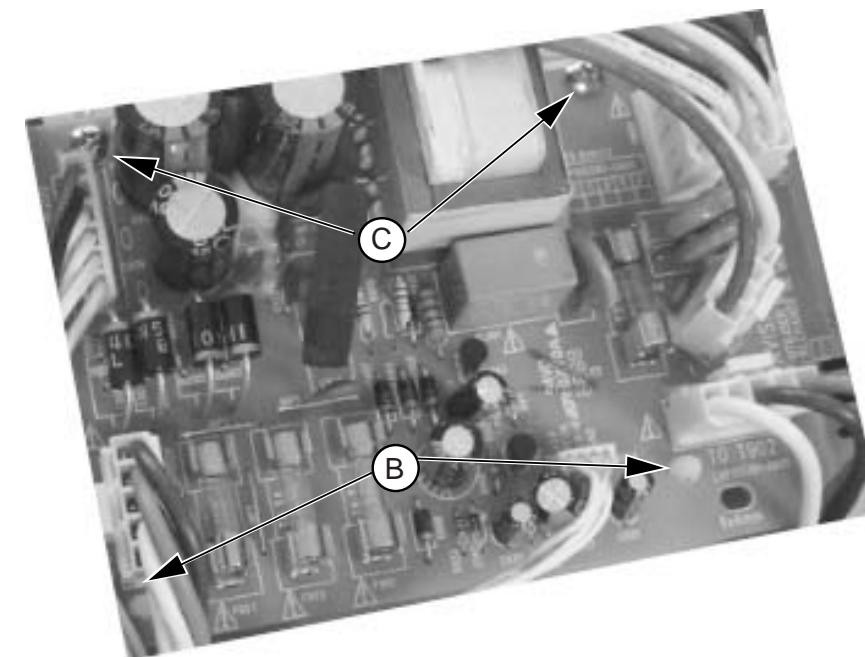

Figure 5
- 1) Loosen 2 screws "C" at the top of the Power Board as shown in figure 5
- 2) Release 2 catches "B" at the top of the Power Board as shown in figure 5